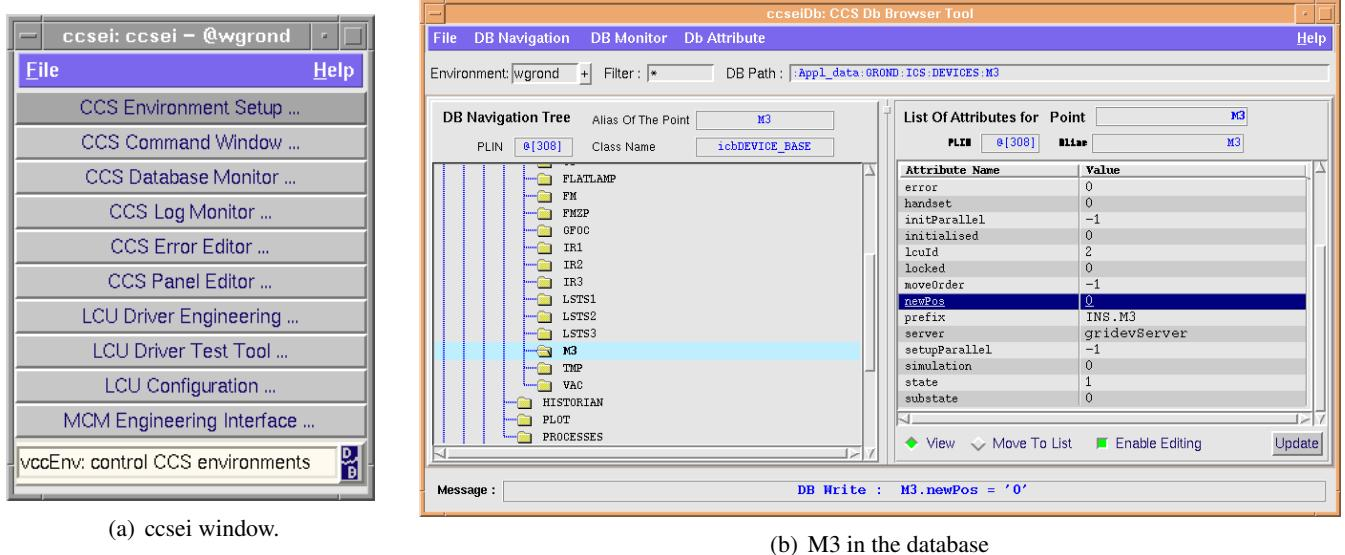

Figure 9.9: Writing the M3 position in the database
- Write the mirror position in the database (Fig. 9.9)